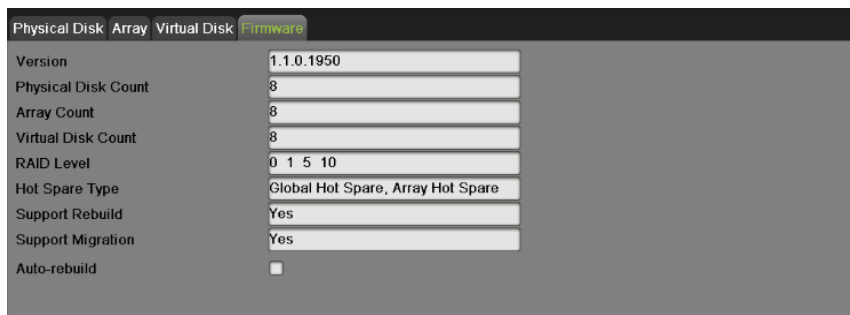

Figure 110 Firmware Interface
1. Enter the Firmware interface by going to Menu > System Configuration > RAID > Firmware, as shown in Figure 110.